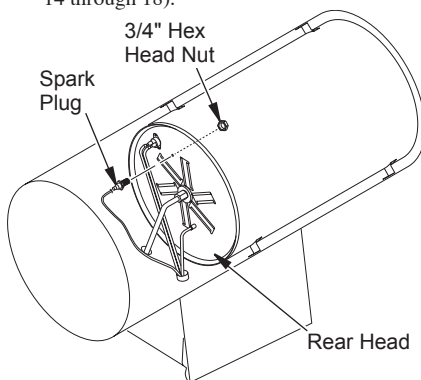

Figure 9 - Removing Spark Plug Nut and Spark Plug (Heater may vary from illustration)
3. From front of heater loosen 3/4" hex nut holding spark plug in place (see Figure 9).